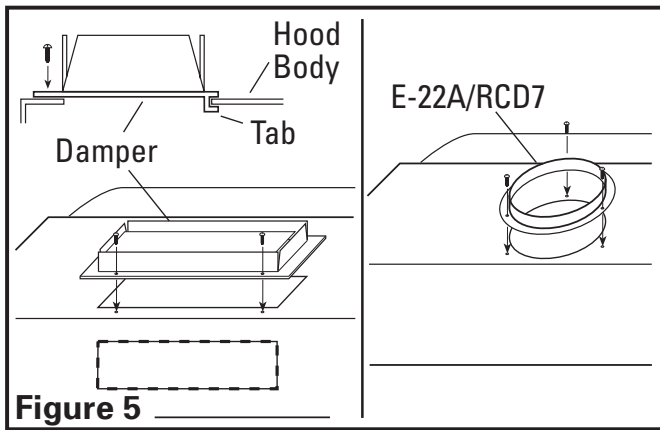

Figure 5
- For 3-1/4" x 10" vertical or horizontal ducting, install the damper assembly to the hood by sliding the tabbed section of the damper under the hood body and securing with the two provided screws. For 7" round ducting, secure either a model E-22a or RCD7 Duct Collar (not included) to the hood with the three provided screws (**Figure 5**).